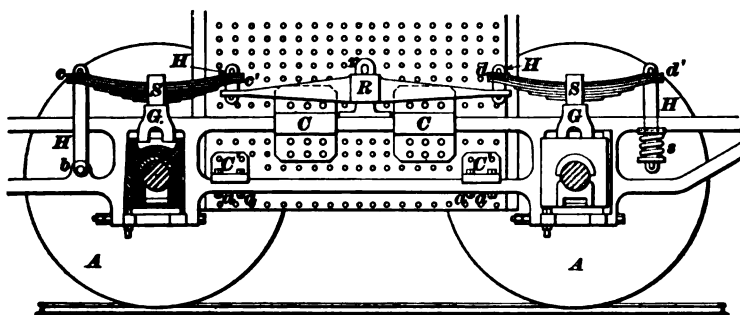

FIG. 21.
**69. General Description.**—As already stated, the frame forms a carriage for, and therefore carries the weight of, the other parts of the locomotive. Fig. 21 shows how this weight is transferred to the journals of the driving axles on an eight-wheeled engine. In the figure, the axles are supposed to be cut off just back of the nearest drivers, which are removed to give a better view of the arrangement of the parts. The arrangement of the gear on the other side of the engine is, of course, similar to that shown in the figure.